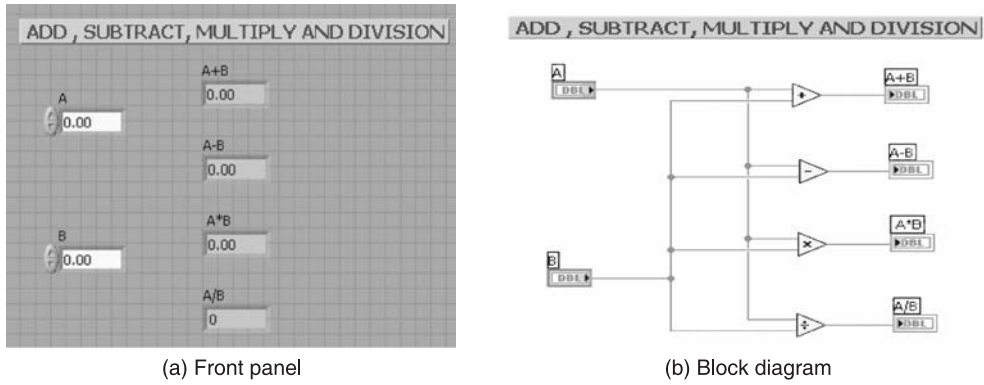

Figure P2.2
**Solution** The front panel has controls A and B and four indicators as shown in Figure P2.2(a). The block diagram has the respective terminals and functions as shown in Figure P2.2(b).